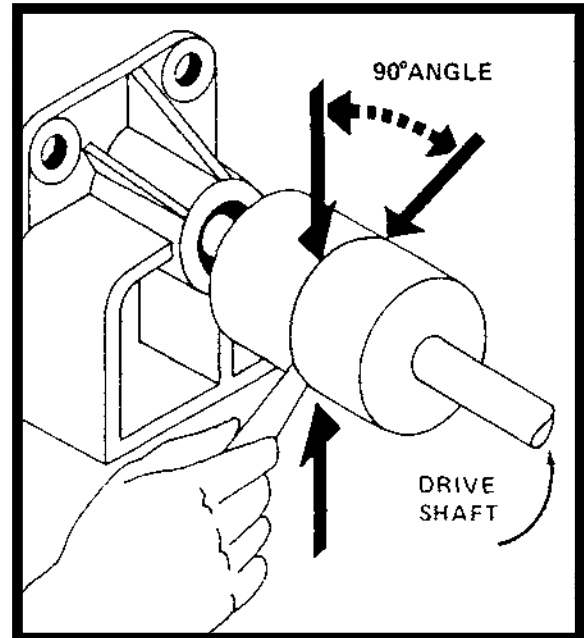

FIGURE 6
8. To avoid angular misalignment, insert a measuring device (taper gauge or feeler gauge) between the coupling faces at four locations 90° apart (See arrows in Figure 6) and measure the gap at each of the four locations. For proper alignment all four measurements should be equal. Reshimming may be required to achieve this alignment.